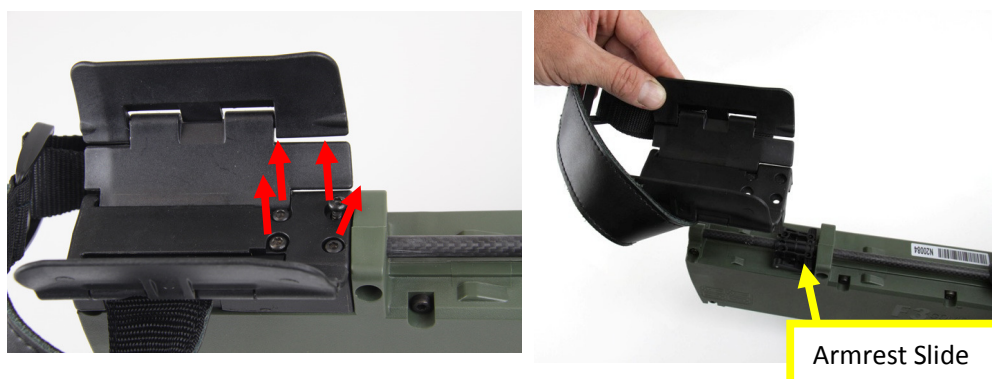

Figure 87: Removing the Armrest
- Remove the four (4) screws from the top of the armrest and remove the armrest. Figure 87.